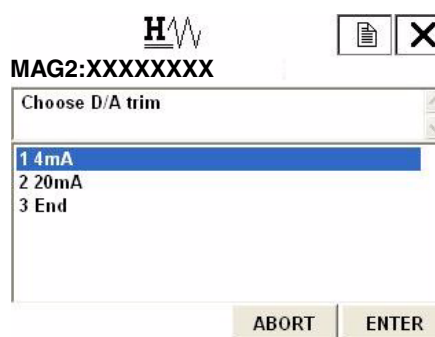

Figure 102.
2. Once the display as shown in Figure 102 appears, move the arrow key up or down to select a current output to adjust, and then press F4 (ENTER). This time, select 4 mA.